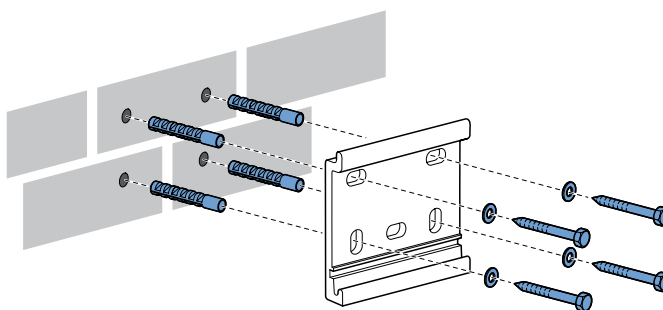

fig. 1.2 Mounting the wall supports
**Attention!** Size X is the width of the awning without side covers. Make sure that there are at least two holes in the middle of a stone. View figure 1.2.
Drill the mounting holes. Our advise is to drill with a 14 mm masonry drill in case of a wall made of concrete or stone. Use matching plugs and bolts of high quality. Mount the wall supports (A) and potential the intermediate support(s) (B) and tighten the bolts. View figure 1.2.